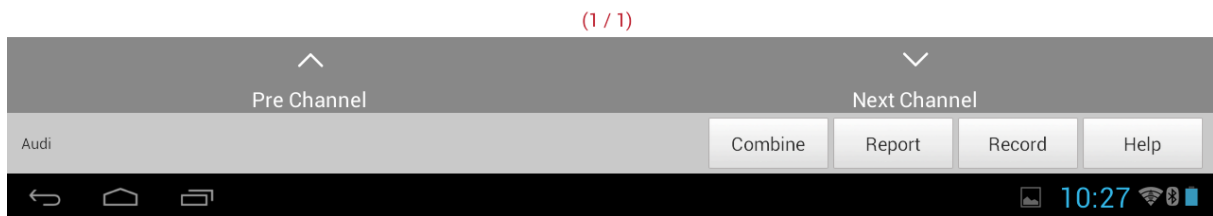
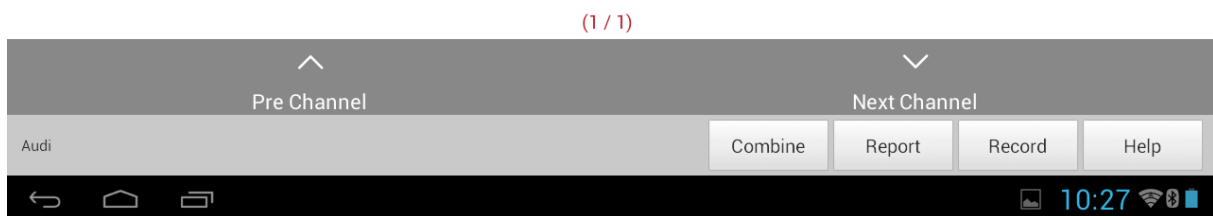
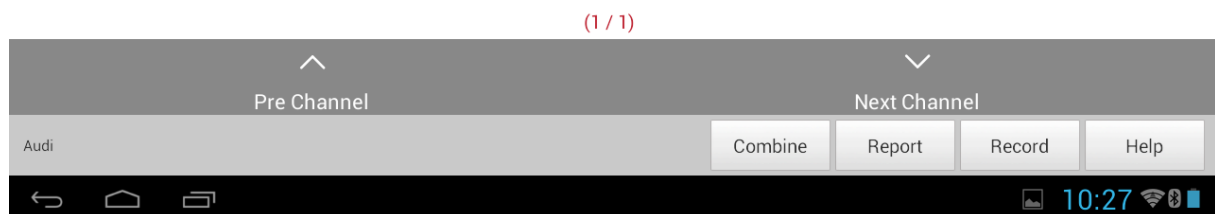

Figure 2 FL tire status
Figure 3 FR tire status
Figure 5 RR tire status
- 5) To locate the faulty tire pressure sensor, read data streams for the FL, FR, RL, and RR tire pressure sensors. See Figure 2, Figure 3, Figure 4, and Figure 5.